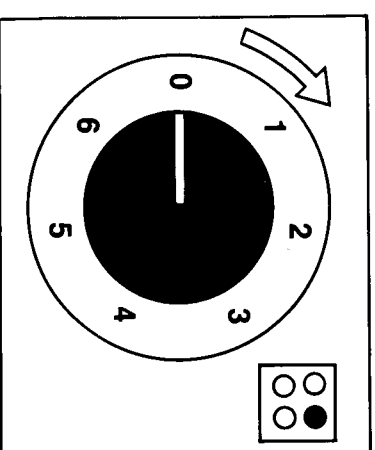

Fig. 5
The relevant control for each heating area is shown in Fig. 5. Each control can be used to select any temperature setting from minimum at position 1 to a maximum at position 6 (see Fig. 5). For normal cooking, after having placed the pan on the required hob position, set the control knob to maximum (6); wait until boiling point is reached, then set the control knob to a lower position as required.